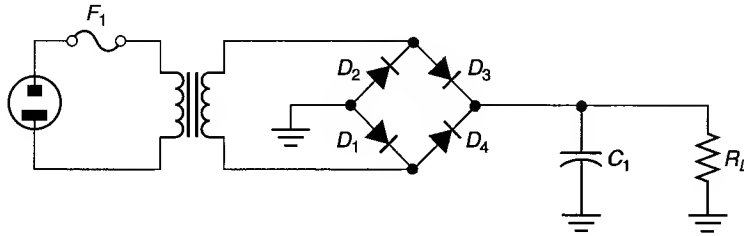

FIGURE 3.60
35. The circuit shown in Figure 3.60 has the following values: $V_S = 18\text{ V}_{ac}$ (rated), $C = 470\ \mu\text{F}$, and $R_L = 820\ \Omega$. Determine the values of V_r , V_{dc} , and I_L for the circuit.
36. The circuit shown in Figure 3.60 has the following values: $V_S = 24\text{ V}_{ac}$ (rated), $C = 1200\ \mu\text{F}$, and $R_L = 200\ \Omega$. Determine the values of V_r , V_{dc} , and I_L for the circuit.